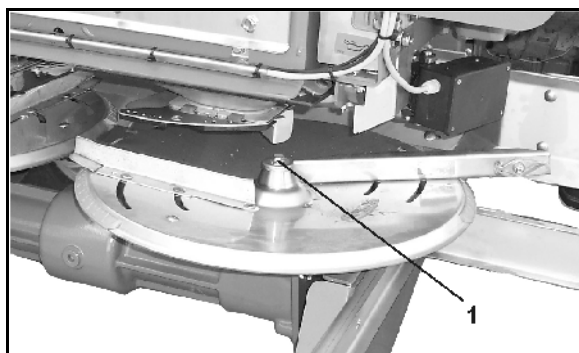

Fig. 55
1. Remove the thumb bolt (Fig. 55/1).
2. Rotate the spreader disc so that the 8 mm dia. disc hole (Fig. 55) is aligned with the centre of the machine.